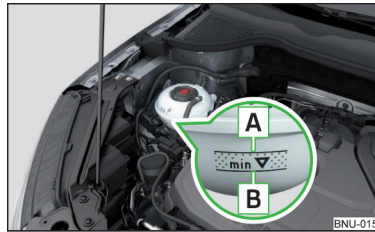

Fig. 309
Check the coolant level - the coolant level must be between the marks **A** and **B** » Fig. 309. If the coolant level is below the mark **B**, refill the coolant.
The **specification** of the coolant is shown on the coolant expansion reservoir » Fig. 309.
- Do not fill the coolant above the mark **A** » Fig. 309. When it heats up, the coolant could press out of the cooling system - there is a risk of damage to the engine parts.